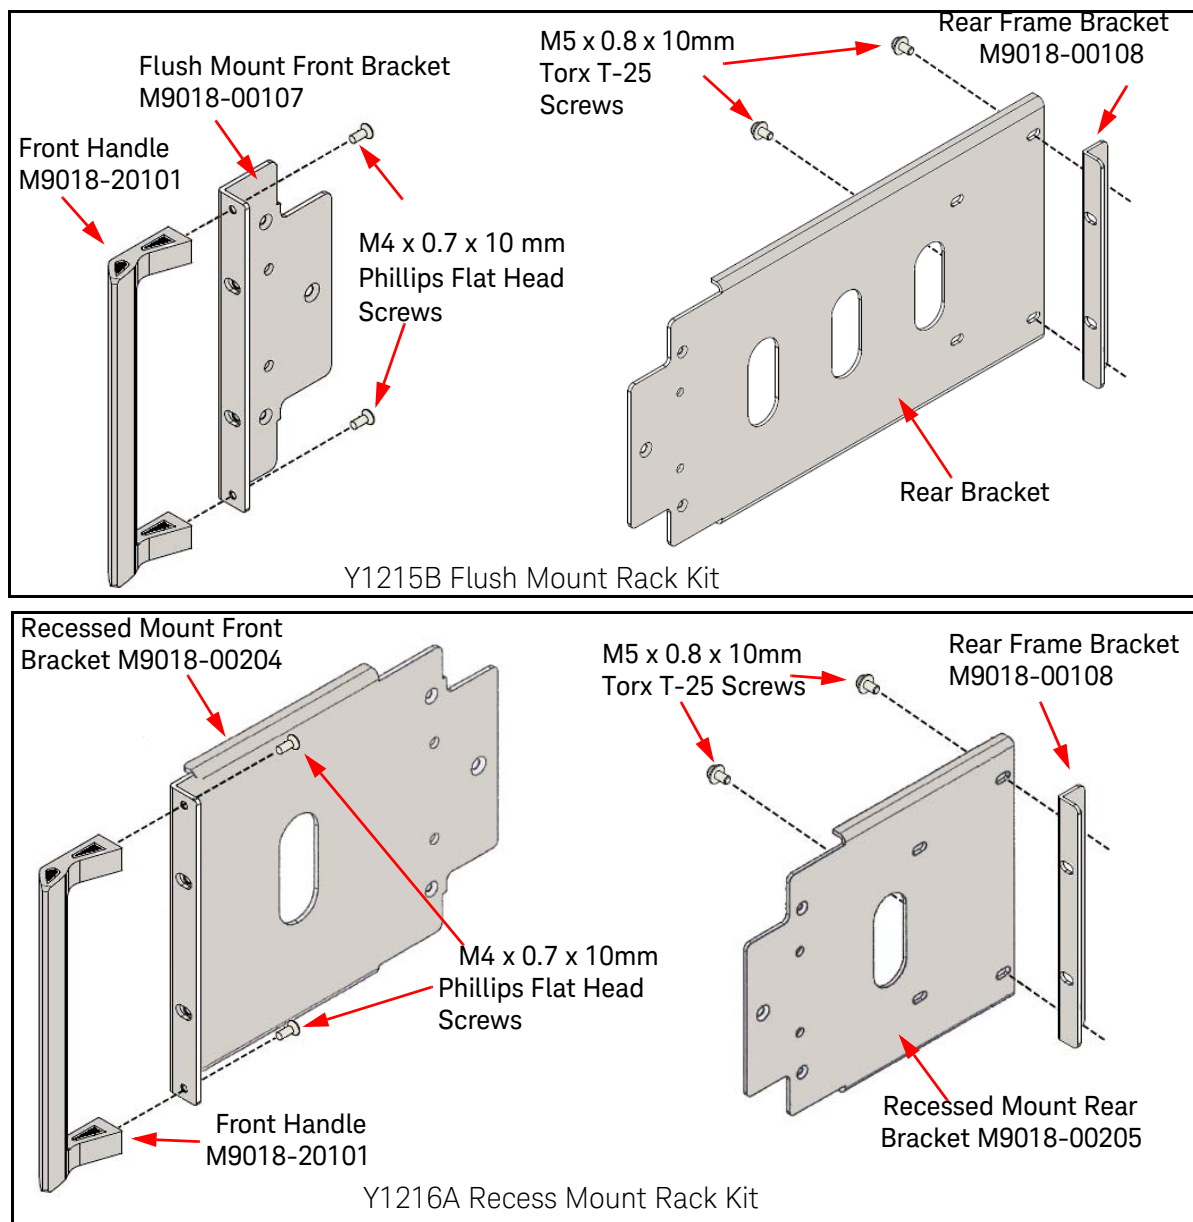

Figure 2 Attaching the Front Handles and Rear Frame Brackets to Rack Mounting Brackets (right side brackets shown)
- 4 Attach the Rear Frame Brackets to the Rear Mounting Brackets. See Figure 2.
- 5 If you are using handles, attach the front handles to the Front Mounting Brackets. See Figure 2.